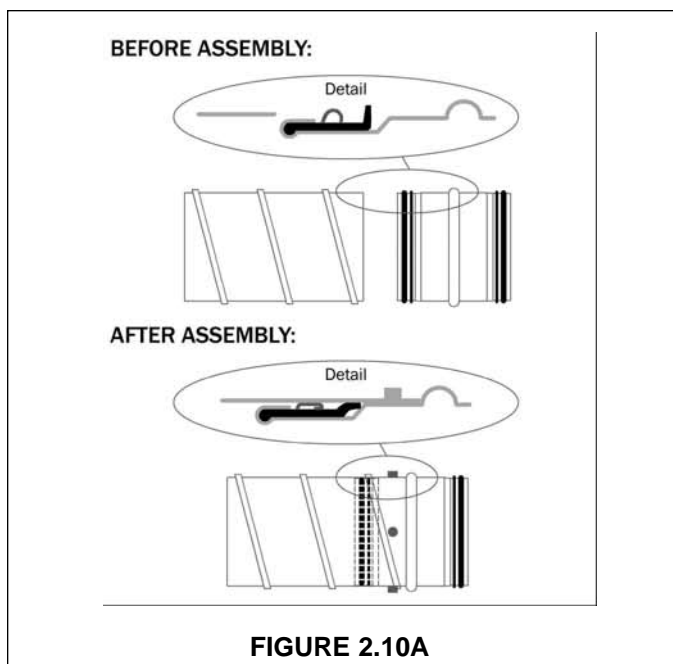
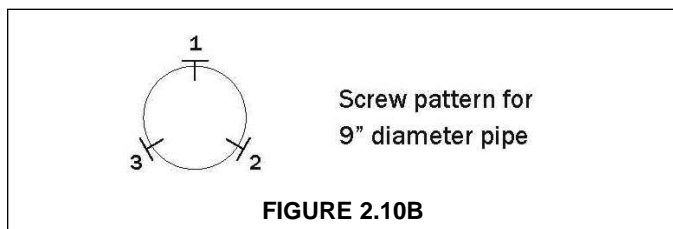

FIGURE 2.10A
FIGURE 2.10B
Begin installing plenum duct by sliding insulation and metalized jacket back several inches to expose end of first straight duct length (14" min. length). Place the straight duct length level with and around the hemmed edge of the plenum adaptor. Apply pressure and the straight duct length will slip into place, stopping at the bead/pipe stop (see Figure 2.10A). Starting at the largest radial gap between fitting and duct, use (3) self-tapping sheet metal screws, placed 1/2" from the bead/pipe stop and spaced evenly around the circumference of the duct connection (see Figure 2.10B). The gasket and fittings are designed to allow adequate room to secure the screws per SMACNA standards. Carefully seal any holes left by measurements, removed screws, etc.
[Suggested location for Figures 2.10A and 2.10B]
To add another length of straight duct, a coupling is required. Slide insulation and jacketry of the previously installed straight duct length back several inches, place the coupling level with and inside the straight duct, and apply pressure until coupling slips into place, stopping at the bead/pipe stop (see Figure 2.10A). Use (3) self-tapping sheet metal screws, placed 1/2" from the bead/pipe stop and spaced evenly around the circumference of the duct connection (see Figure 2.10B). Repeat when connecting the additional length of straight duct. Cover all connections/couplings with insulation and jacket, and seal jacket seam with UL 181A tape.